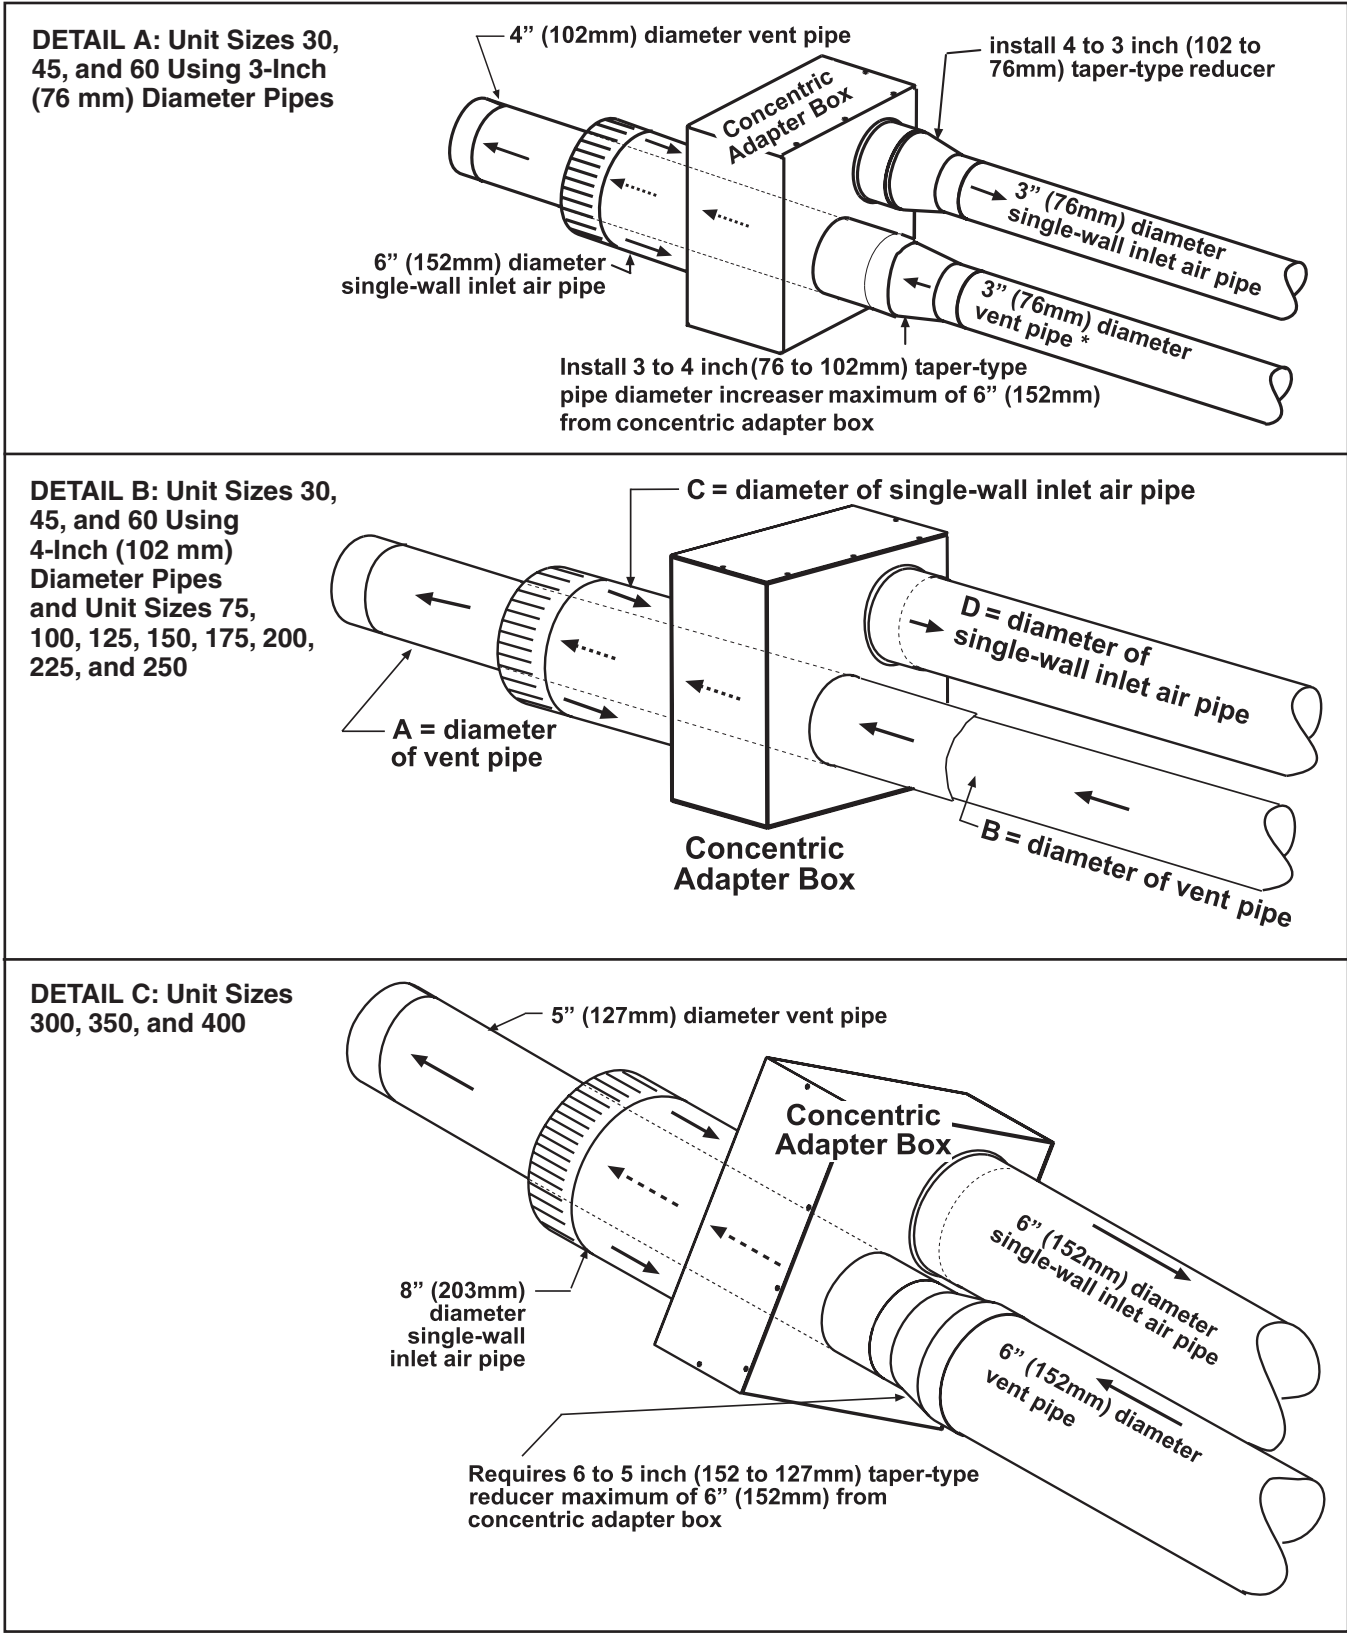

Figure 5. Concentric Adapter Box Connections (Refer to Table 5)
- **Figure 5** shows concentric adapter box connections.
- **Table 6** lists connection dimensions shown in **Figure 5**, DETAIL B.
- Unit sizes 300, 350, and 400 shown in **Figure 5**, DETAIL C always require a 6–5 inch (152–127 mm) taper-type reducer in the vent pipe.
*See **Figure 5**.